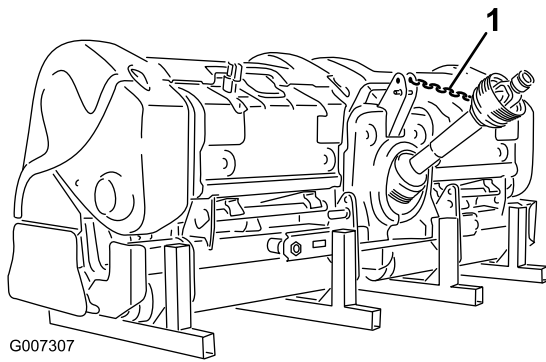

Figure 41
12. Connect the PTO tether to the PTO shield to prevent the PTO shaft from contacting the ground (Figure 41).